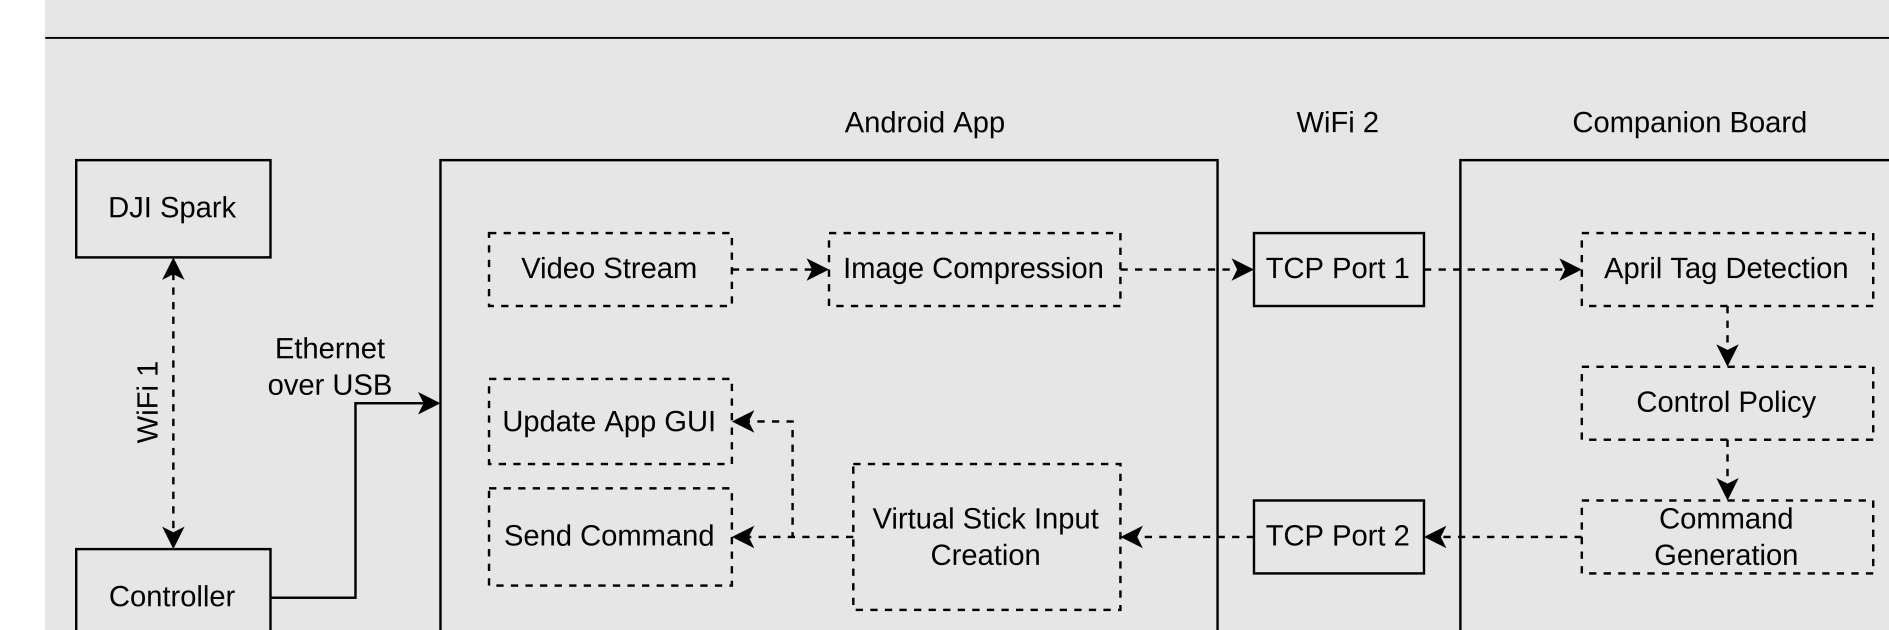

Figure 2: System data flow.
- Autonomous control can happen when the companion board is connected (See Figure 2).